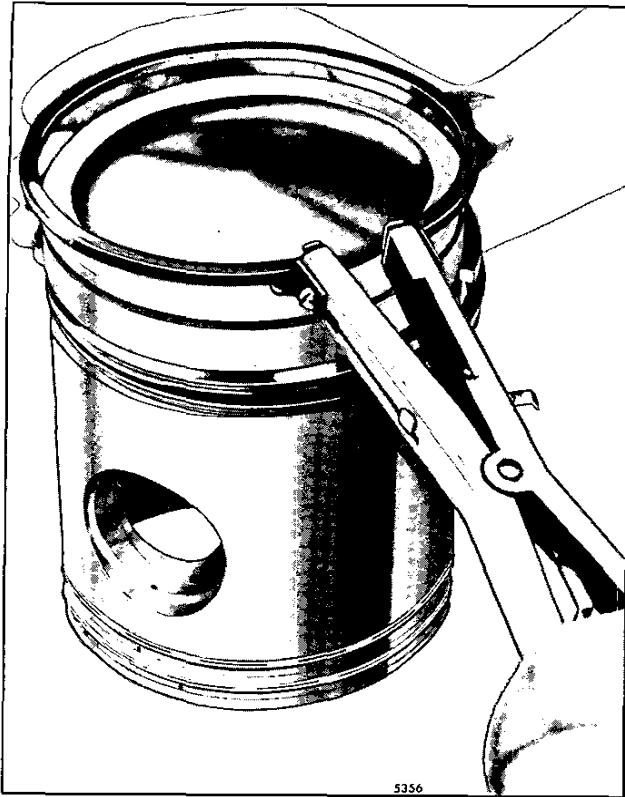

Fig. 13 – Removing or Installing Piston Rings with Tool J 8128
1. Secure the connecting rod in a vise equipped with soft jaws and remove the piston rings with tool J 8128 (Fig. 13).